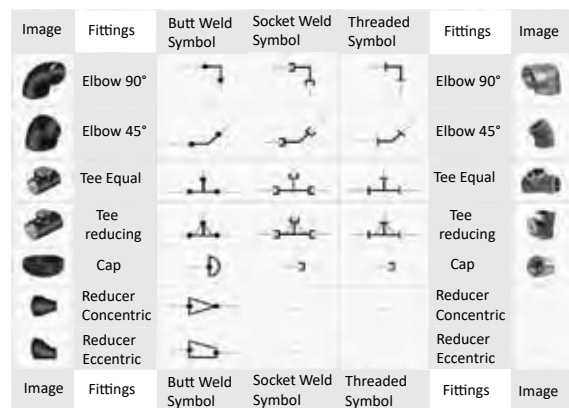

Fig. 1.2.34 Piping fittings illustration
- d. Summary of valve symbols are as shown in the following Fig. 1.2.34.